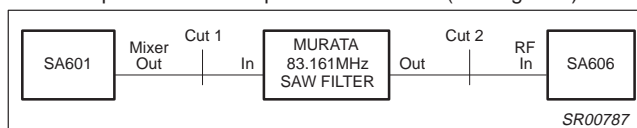

Figure 5. Three Sections of Demoboard
1. Separate the board into three sections by making two cuts in the trace. Cut 1 is between the Mixer out of the SA601 and the input of the SAW filter. Cut 2 is between the SAW filter output and the RF input of the SA606. (see Figure 5)